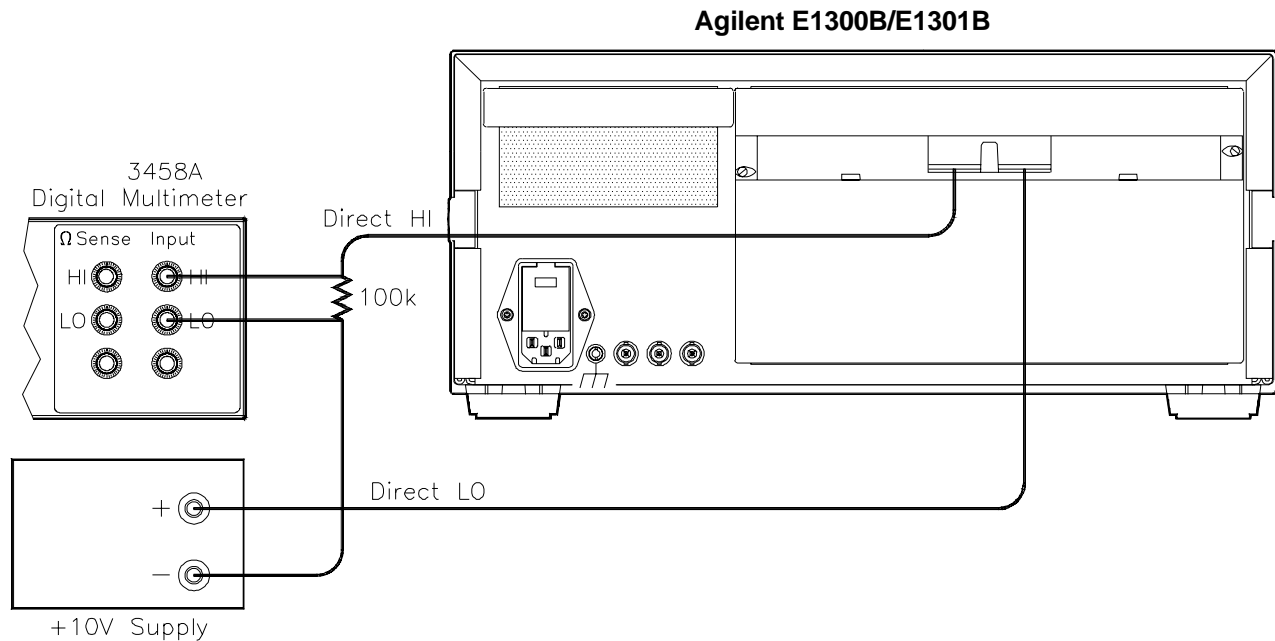

Figure 2-7. Negative HI to LO Leakage Connections
- Connect DMM, power supply, and resistor as shown in Figure 2-7